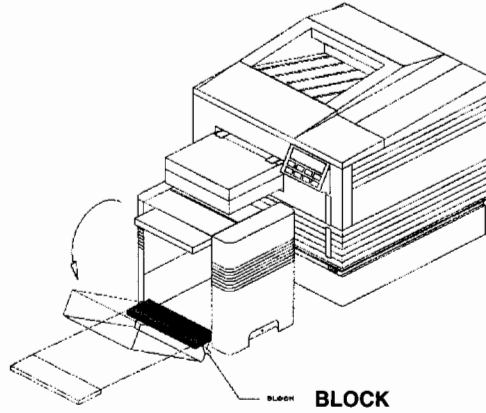

Figure 2-8. Opening the Paper Feeder's Rear Door
4. Once the elevator is fully raised, remove the adapter plug from the paper feeder power socket open the door of the Paper Feeder, as shown in figure 2-8. The door will rest horizontally when in the fully opened position. Remove the wood block. Reinstall the adapter plug.
5. The elevator platform of the Paper Feeder will continue to lower, as shown in figure 2-8, until it then stops at the bottom position.